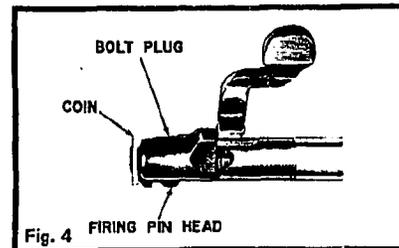

Fig. 4
**CLEANING AND CARE** — **Caution:** Before cleaning make sure there is no cartridge in the barrel chamber. Cleaning of barrel or bolt is more easily done with bolt removed. To remove bolt, press down on front of bolt release with a small, flat key or screwdriver. Bolt release is located in left rear of bolt channel in receiver. (Fig. 3) Withdraw bolt from receiver. When cleaning barrel use lightly oiled, soft cloth. Clean from breach to muzzle. Scrub barrel bore and cartridge chamber with a good solvent, if necessary. Wipe dry and re-oil bore and chamber very lightly. Clean bolt or bolt parts with a good petroleum solvent. Brush bolt face to remove shooting residue. Re-oil lightly and lubricate cam surfaces on bolt to prevent wear. If necessary to clean firing pin assembly, pull firing pin head back until coin or similar piece can be inserted in slot near back edge of firing pin head (Fig. 4). Hold bolt handle and turn bolt plug until firing pin assembly can be removed from bolt. Clean, re-oil lightly and reassemble in reverse. Removal of stock is not recommended unless for replacement of fore-end weights.